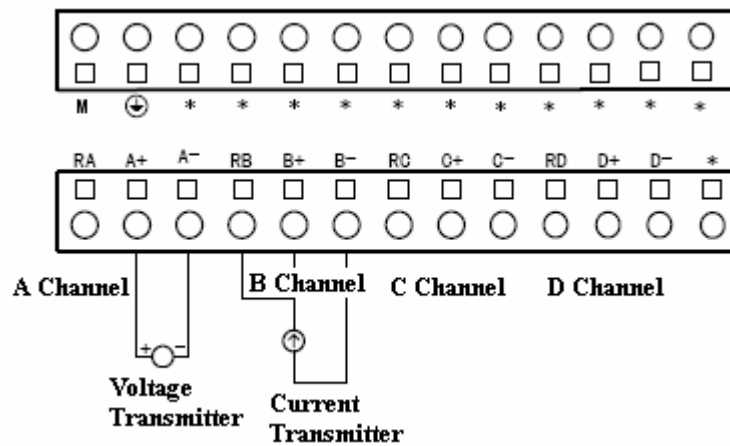

Figure3-2-1 LM3310 Terminal Definition & Wiring
LM3310 module provides 4 analog input channels. See Figure3-2-1 for terminal definition and typical field wiring.
- Lower level terminals are signal input channels. Input signal can be either voltage or current signals. In Figure3-2-1, when input signal is voltage signal, A+ connects the positive end of voltage transmitter and A- connects its negative end. When input signal is current signal, short connect RA and A+ connect the positive end of current transmitter, A- connects the negative end of current transmitter.